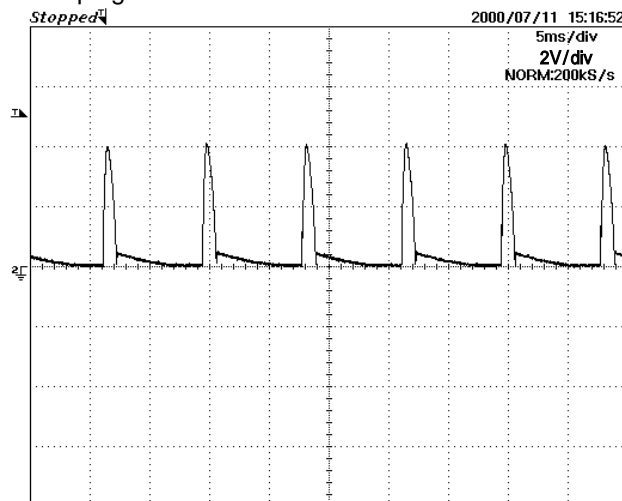

Fig. 6 Waveform between CP18 – GND
4. Confirm that the waveform of the voltage between CP18 (D2 cathode incase of BOARD ) and GND on MUX CHARGE-04A board is approximately as shown in the Figure below. (Fig. 6 waveform is in case of main supply frequency 60Hz. If main supply frequency is 50Hz, period between pulses is 10ms.)